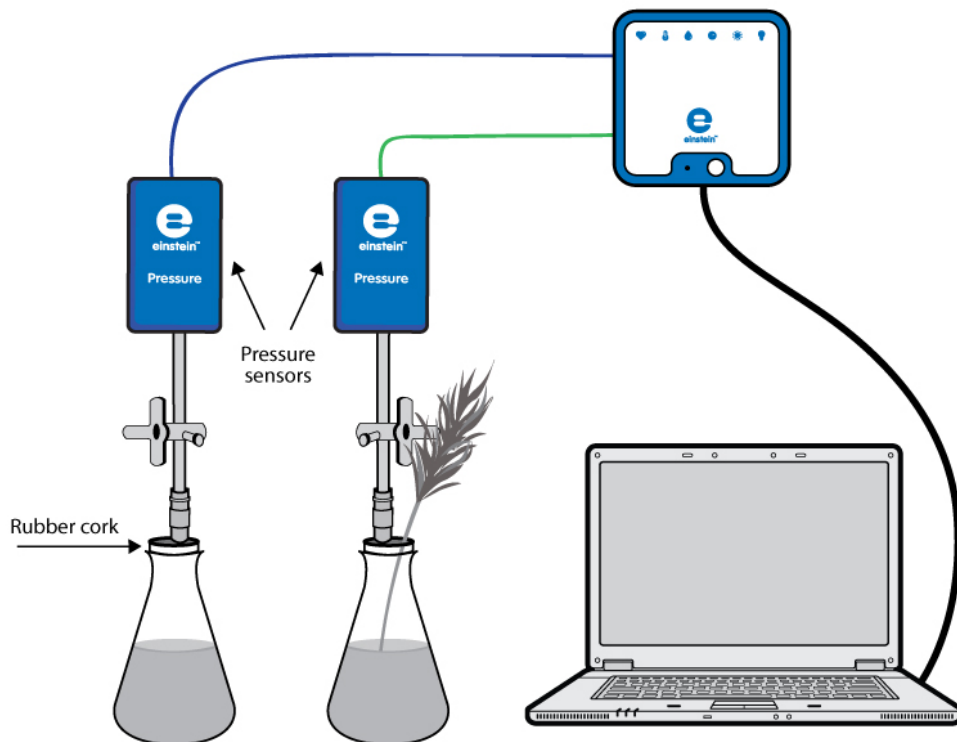

Figure 3
3. Assemble the equipment as illustrated in Figure 3.